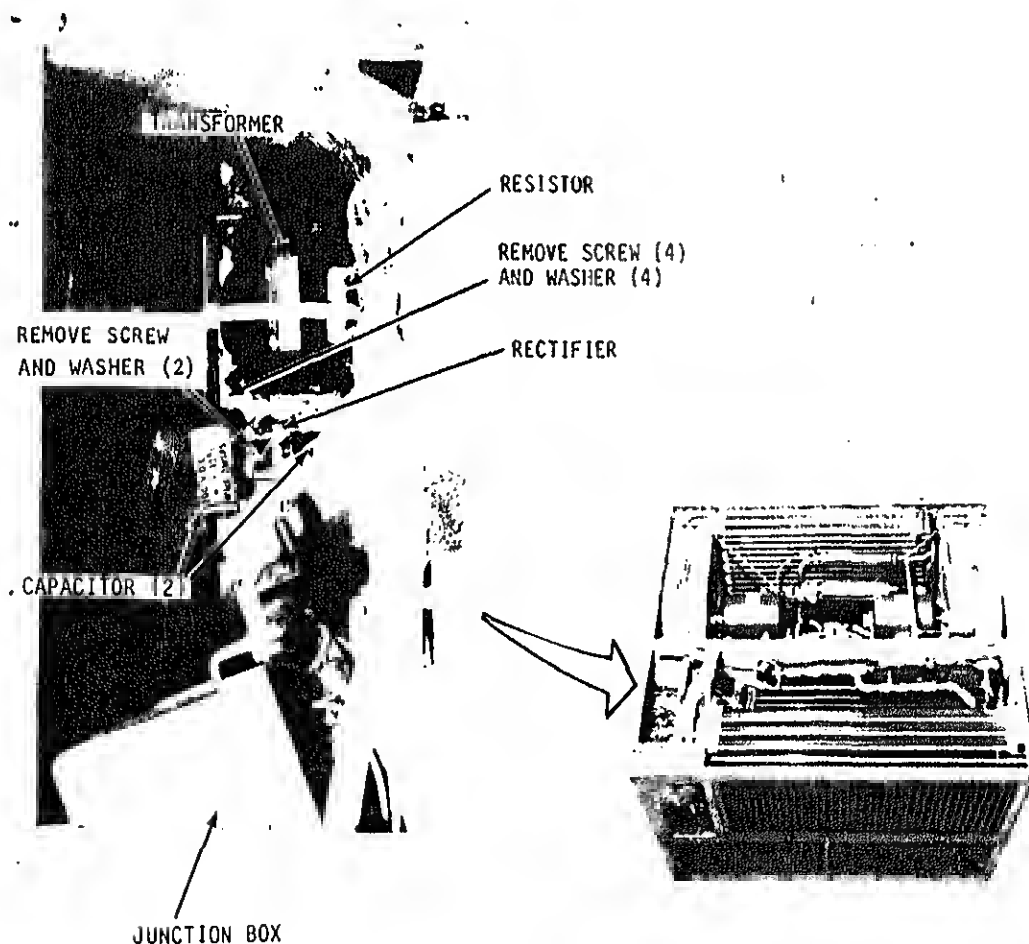

Figure 4-17. Transformer, resistor, rectifier and capacitors, removal and installation
(2) Refer to figure 4-17 and remove the transformer and resistor. Remove resistor from transformer if it is faulty when tested as follows.
- 1) Refer to figure 4-17 and install the transformer and resistor.
- (2) Refer to figure 4-17 and detach the cable from the rectifier.
- (3) Remove the capacitors from the rectifier cable terminals.
- (4) Remove the rectifier by removing the two mounting screws and washers.
(1) Refer to figure 4-17 and install rectifier.